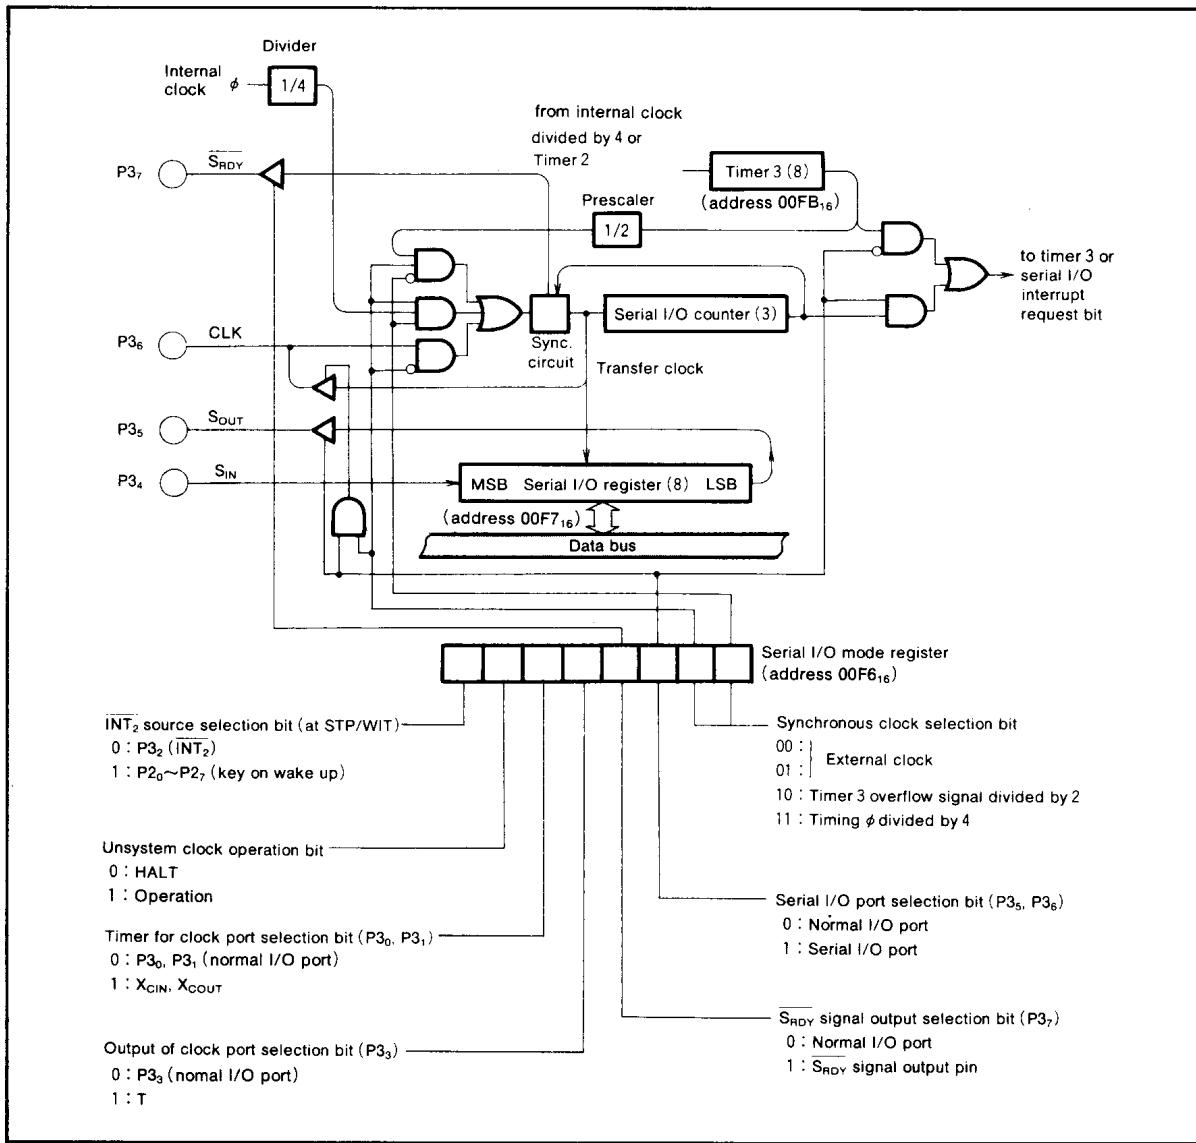

Fig.8 Block diagram of serial I/O
The block diagram of serial I/O is shown in Figure 8. In the serial I/O mode the receive ready signal ( $S_{RDY}$ ), synchronous input/output clock (CLK), and the serial I/O ( $S_{OUT}$ ,  $S_{IN}$ ) pins are used as P37, P36, P35, and P34, respectively. The serial I/O mode register (address 00F616) is an 8-bit register. Bit 0 and 1 of this register is used to select a synchronous clock source. When these bits are (00) or (01), an external clock from P36 is selected. When these bits are (10), the overflow signal divided by two from timer 3 becomes the synchronous clock. Therefore, changing the timer period will change the transfer speed. When the bits are